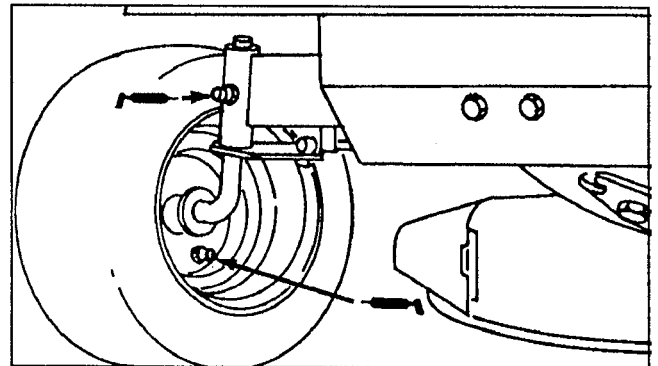

Figure 14
1. Wipe (4) grease fittings on spindles and wheels (Fig. 14) with a clean rag. If there is paint on front of fittings, scrape it off.
2. Lubricate both axle spindles w/No. 2 general purpose grease (Fig. 14). Continue to pump grease until it oozes out the spindle. Wipe up any excess grease.
3. Lubricate both front wheels w/No. 2 general purpose grease (Fig. 14). Pump grease gun until grease oozes. Wipe up any excess grease.